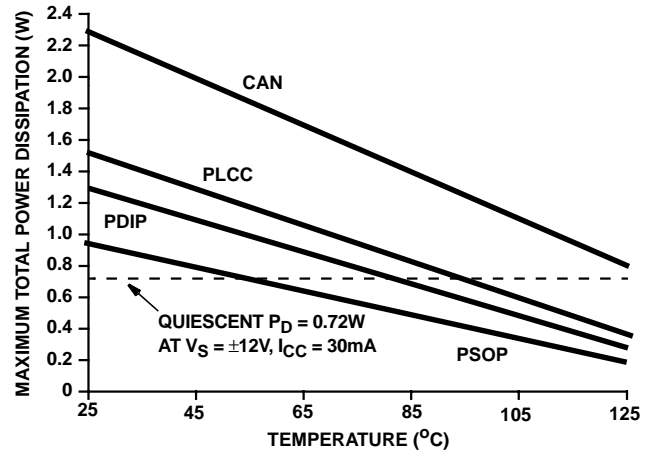

FIGURE 5. MAXIMUM POWER DISSIPATION vs TEMPERATURE
1. Maximum power dissipation, including load conditions, must be designed to maintain the maximum junction temperature below 175°C for the metal can package, and below 150°C for the plastic packages (See Figure 5).
3. Maximum operating temperature in the PSOP package is limited to 60°C, for  $V_{SUPPLY} = \pm 12V$  to prevent the junction temperature from exceeding 150°C. The maximum operating temperature may have to be derated further, depending on the output load condition. The operating temperature may be increased if the HA9P5033 is operated at lower  $V_{SUPPLY}$ . For example, the quiescent operating temperature may be increased to 75°C by operating at  $V_{SUPPLY} \leq \pm 9.7V$ . See Figure 5 for more information.
Figure 5 is based on: